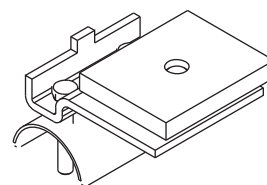

Fig. 16 End Clamp
- b) If required install the festoon end clamp directly under the end stop bolt just installed (fig 16).